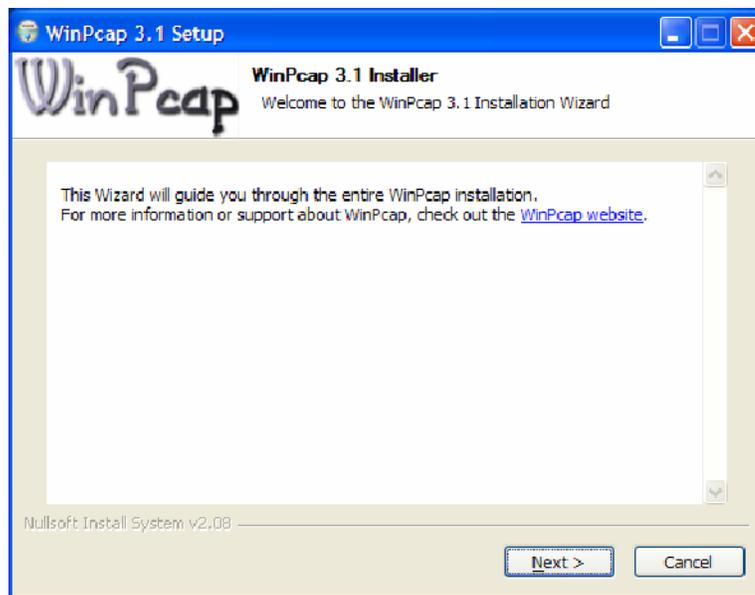

Figure 21: WinPcap Setup dialog
7. Allow the installation process to proceed until the WinPcap Setup dialog box is displayed, See Figure 21.